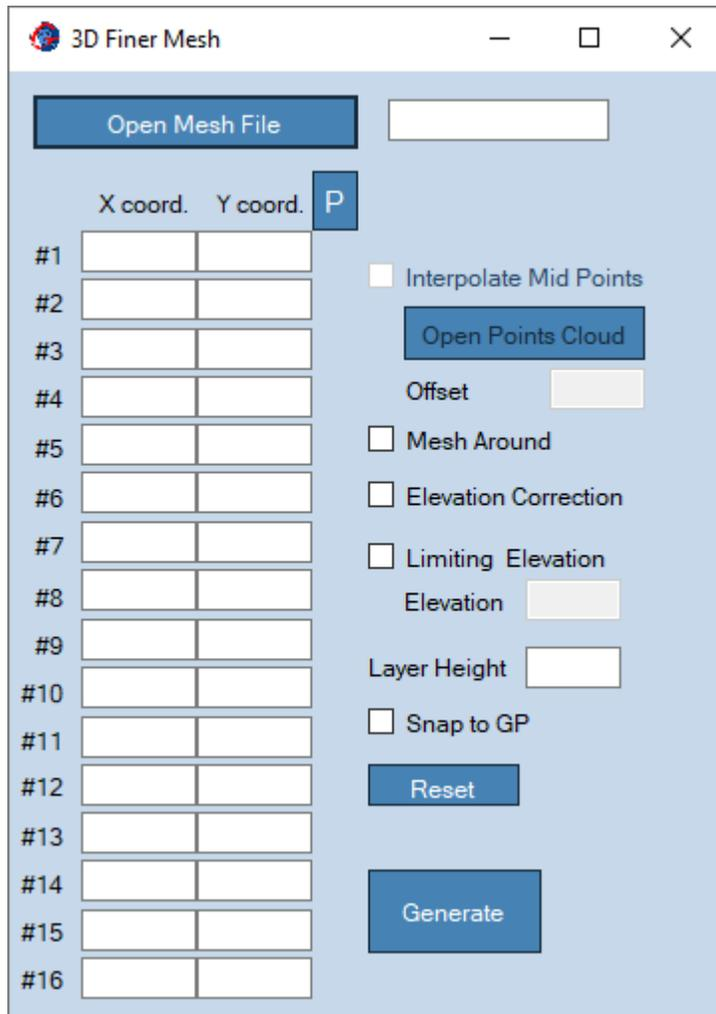

Figure 28: 3D Surfaces Menu – Finer Mesh.
- **Meshing Menu, Finer Mesh:** This menu option (shown in Figure 28) allows for a mesh refinement with smaller elements, either over the entire model domain or over a portion of it. The new smaller elements have a quarter size of the source elements. This option does not require the execution of *3D Meshing* after generation.